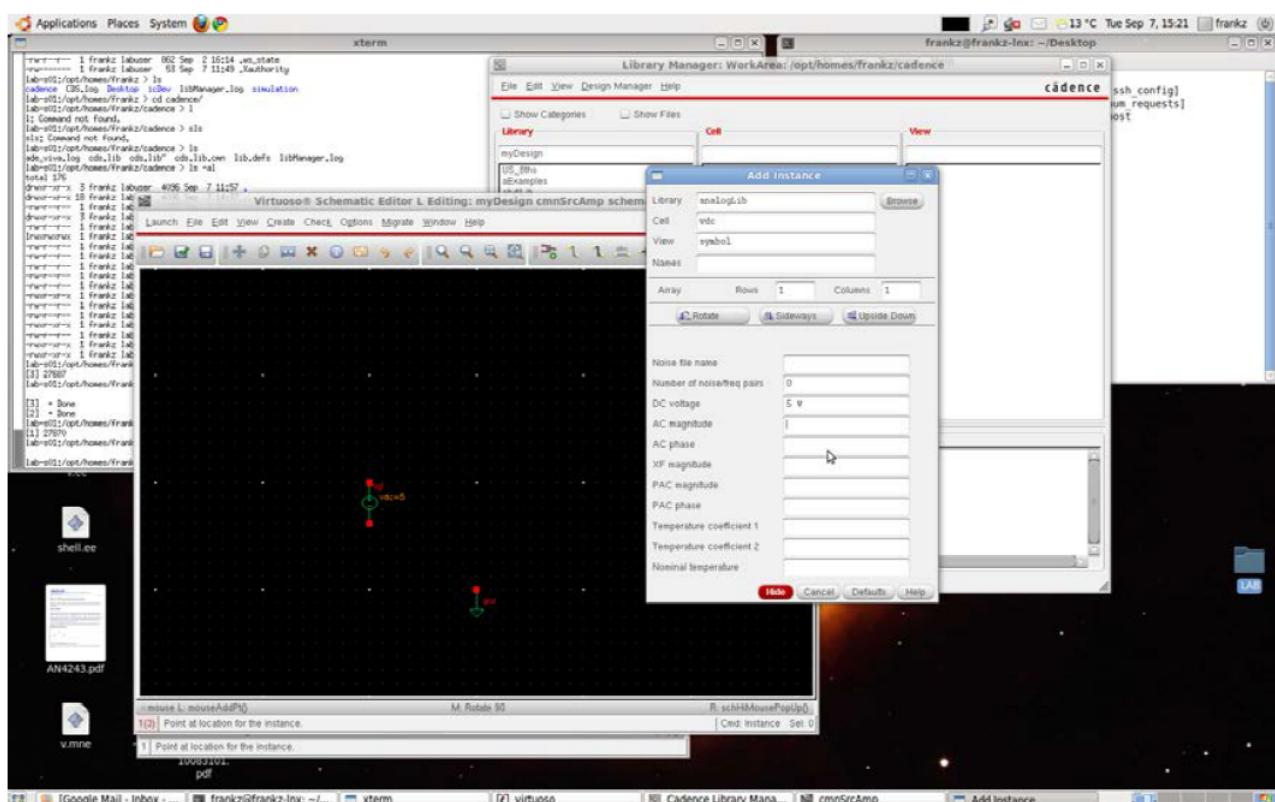

Figure 6: Adding the voltage source "vdc"
- Step 6: Add a DC voltage source - follow steps 1-3 to add "vdc" object from the analogLib library as shown in Figure 6. Fill out the parameter DC voltage as per Figure 6. Click on the schematic window to place the component.